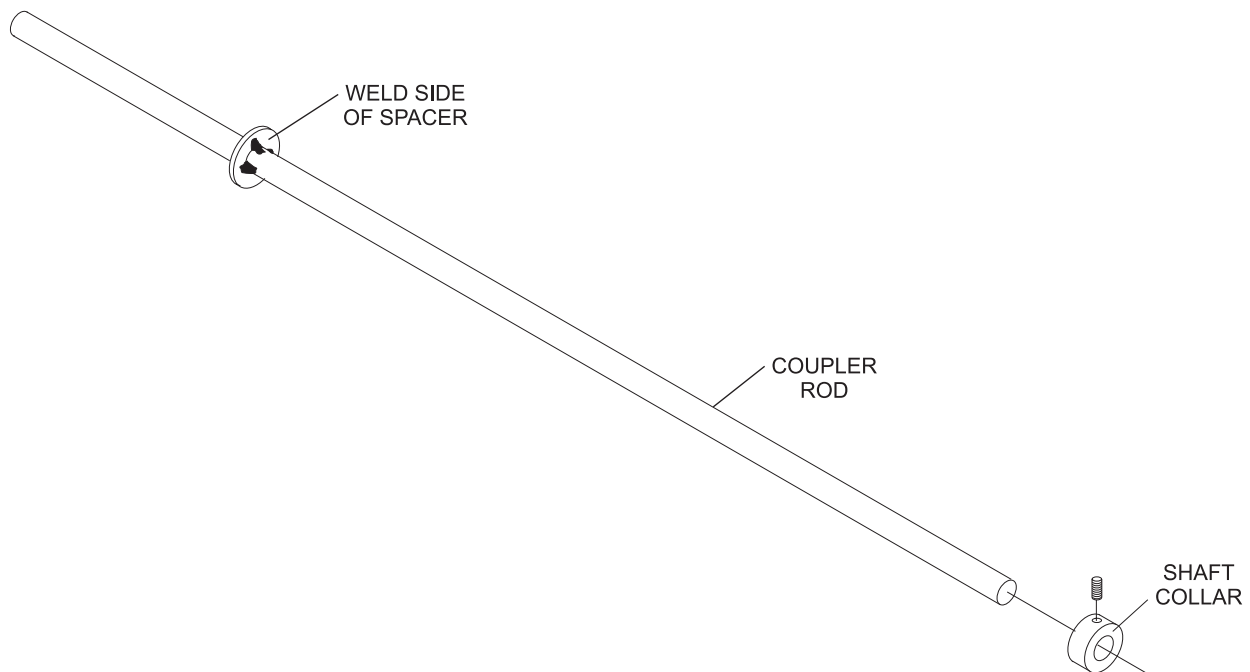

Figure 1
1. Slide shaft collar onto coupler rod (weld side of spacer). Refer to *Figure 1*.